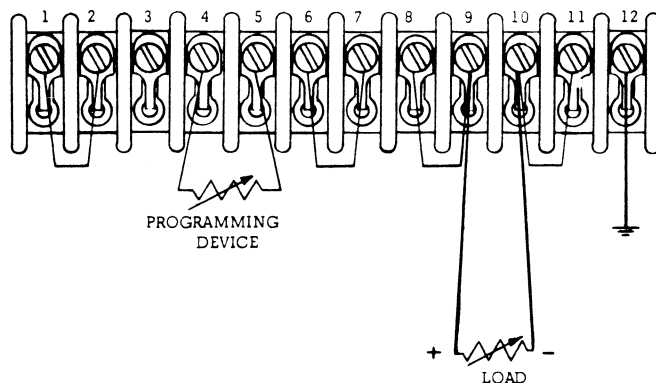

Figure 3-4. Current Mode Prog. Hookup
**3-23.** To adapt unit to the current-mode resistance-programming configuration, refer to Fig. 3-4 and proceed as follows: